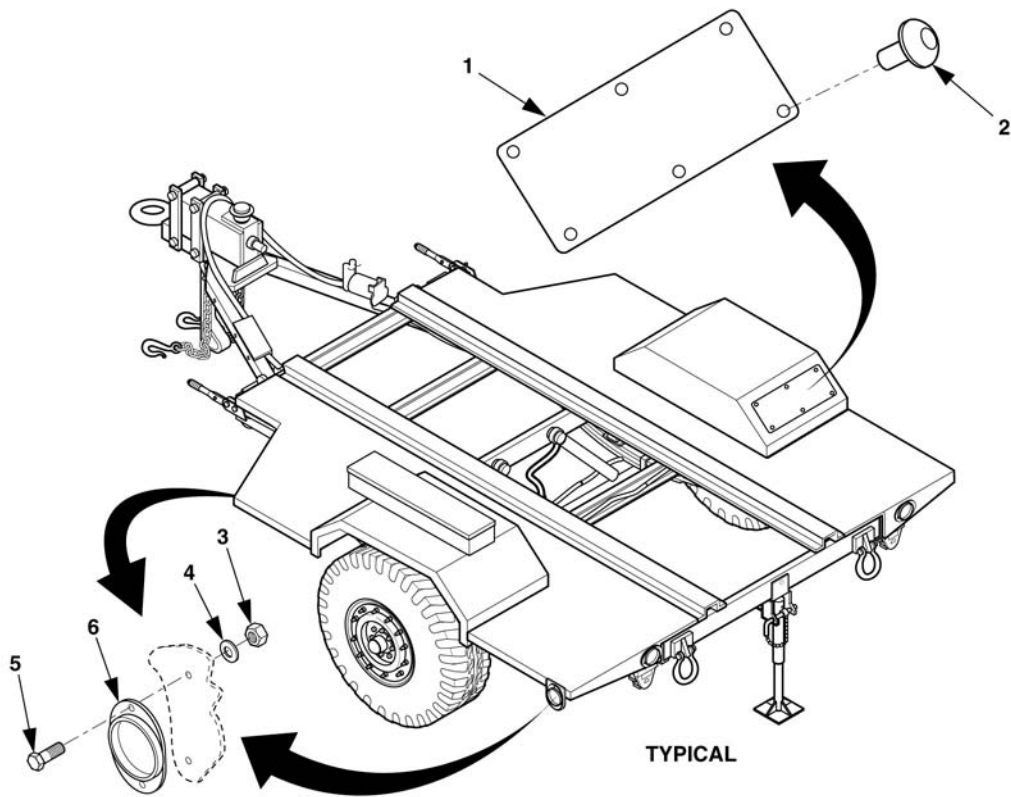

Figure 4-20. Plate, ID and Reflector Replacement.
- a. Drill out rivets (2, Figures 4-20) and remove data plate (1).
- b. Position data plate (1) on trailer and install rivets (2).
- a. Remove self-locking nuts (3, Figure 4-20), flat washers (4), screws (5), and reflector (6) from trailer.
- b. Install reflector, (6), screws (5), flat washers (4), and self-locking nuts (3) on trailer.